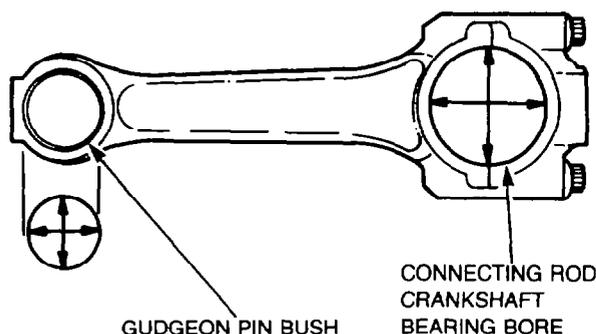

Figure 25 — Measuring Connecting Rod
- af. Measure and note the inside diameter of the gudgeon pin bush, using a suitable inside micrometer or bore gauge, in two places 90° apart (see Fig. 25). The bush should measure 50.825-50.856 mm (2.0010-2.0022 in.), replace any out of specification bush.